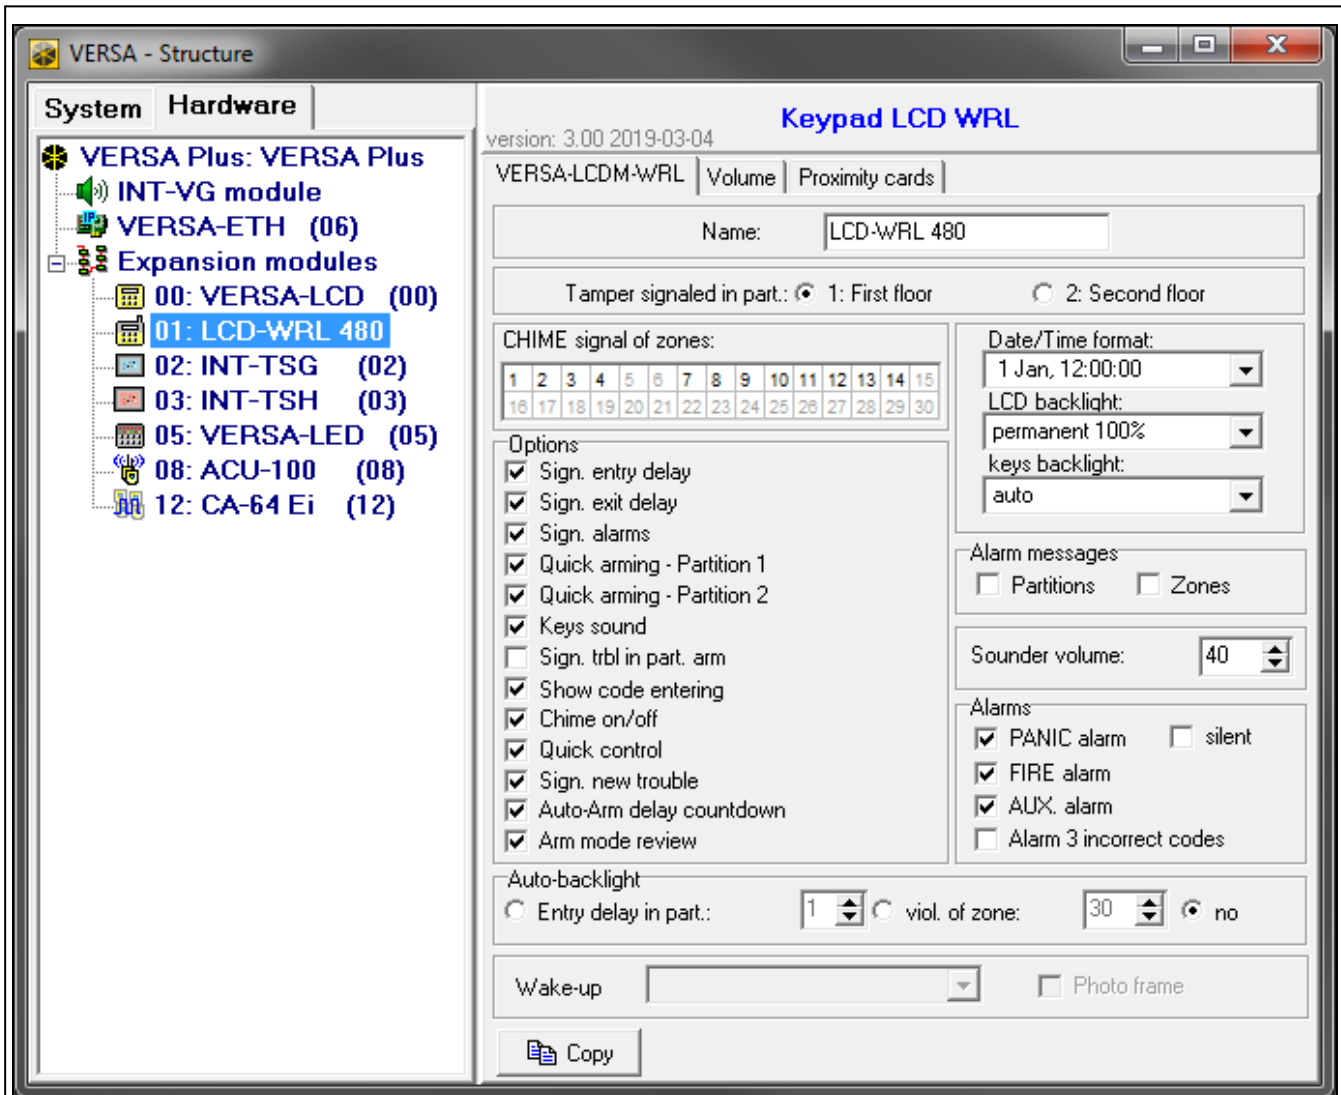

Fig. 4. DLOADX program: keypad settings stored in the control panel.
- DLOADX program: →“VERSA – Structure” window →“Hardware” tab →“Expansion modules” branch →[keypad name] (see: Fig. 4),